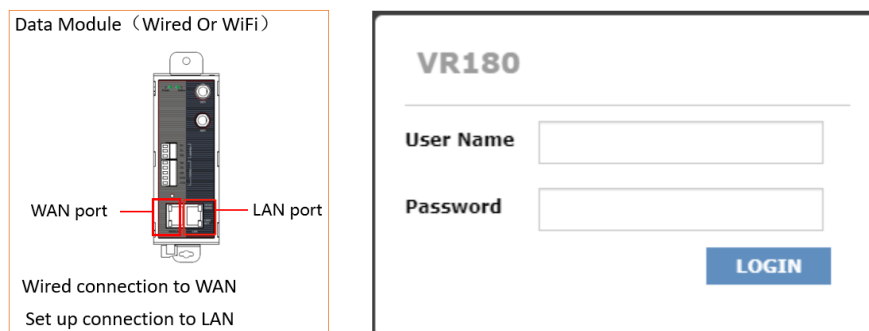

Figure. 4.8
(2) Connect the LAN port of the control box of the main cabinet to the network port of the PC through the RJ45 network port connector (8P), open the Google Chrome browser and enter the URL 192.168.5.5, user name: user, password: password (Fig4.8).